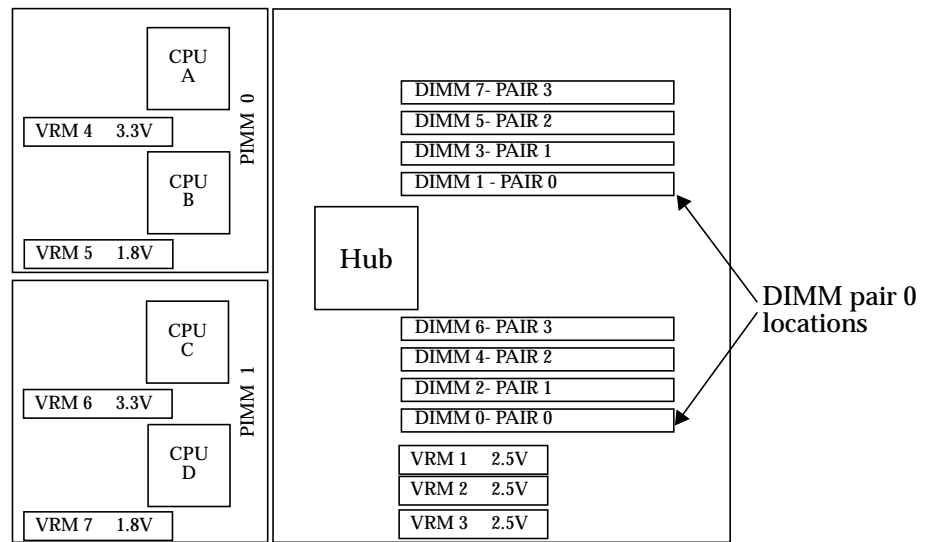

Figure 8-1 Memory DIMM and Processor PIMM locations
- Install memory DIMMs in pairs (refer to Figure 8-1 for pair locations).
Refer to Figure 8-1 for DIMM pair locations.